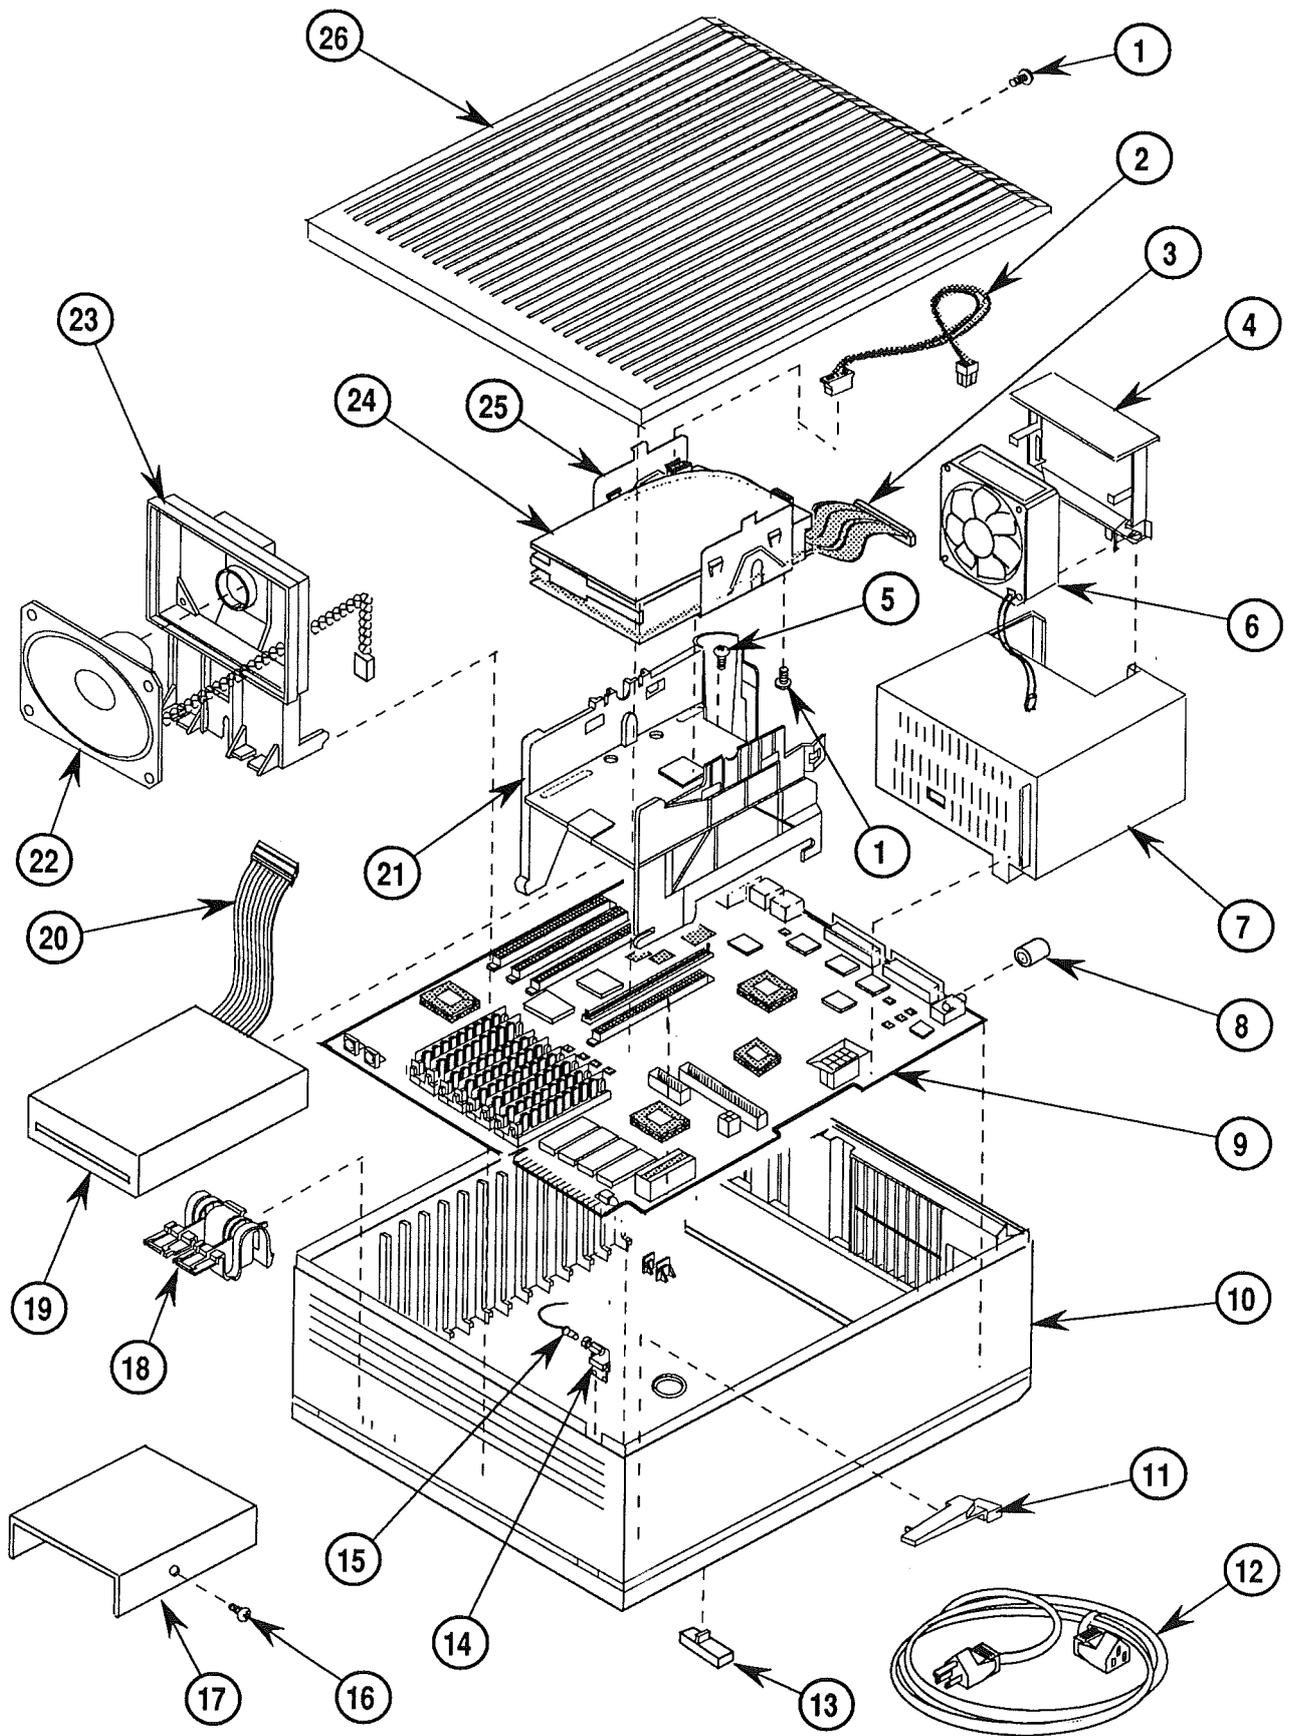

FIGURE 1
View (Figure 1)
□ MACINTOSH IIci—SYSTEM EXPLODED VIEW (Figure 1)